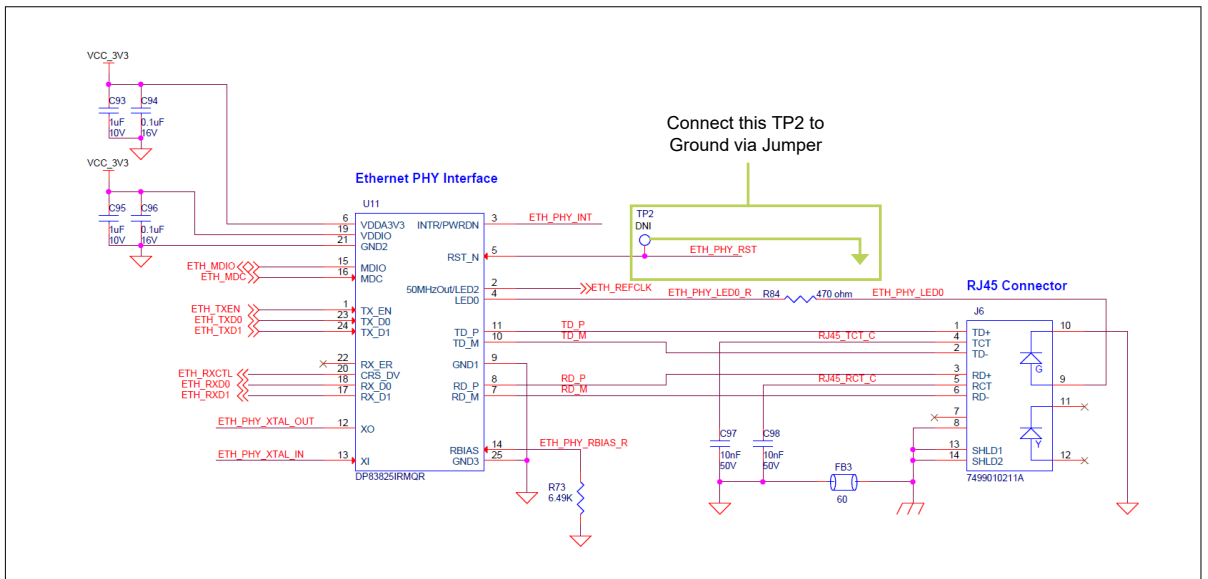

Figure 52 Reset the Ethernet PHY
- To reset the Ethernet PHY on the TRAVEO™ T2G B-H Lite kit, connect a jumper between the GND pin and the TP2 (see Figure 52).